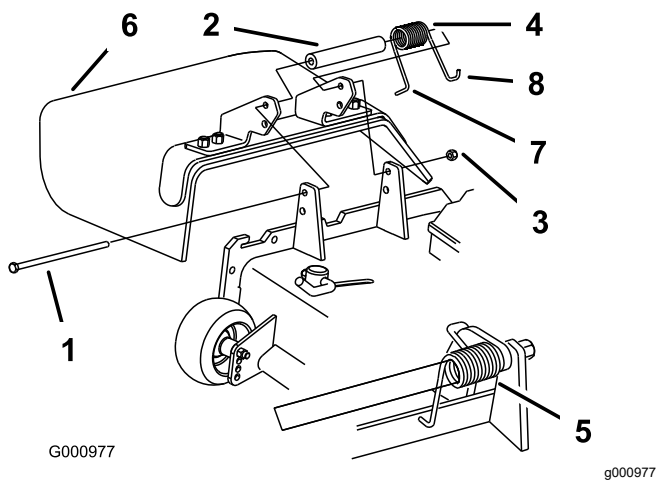

Figure 28
2. Remove the locknut, bolt, spring and spacer holding the deflector to the pivot brackets (Figure 28). Remove the damaged or worn grass deflector.
Note: Ensure that the L-end of the spring is installed behind the cutting unit edge before installing the bolt as shown in Figure 28.
4. Install the bolt and nut. Place the J-hook end of the spring around the grass deflector (Figure 28).